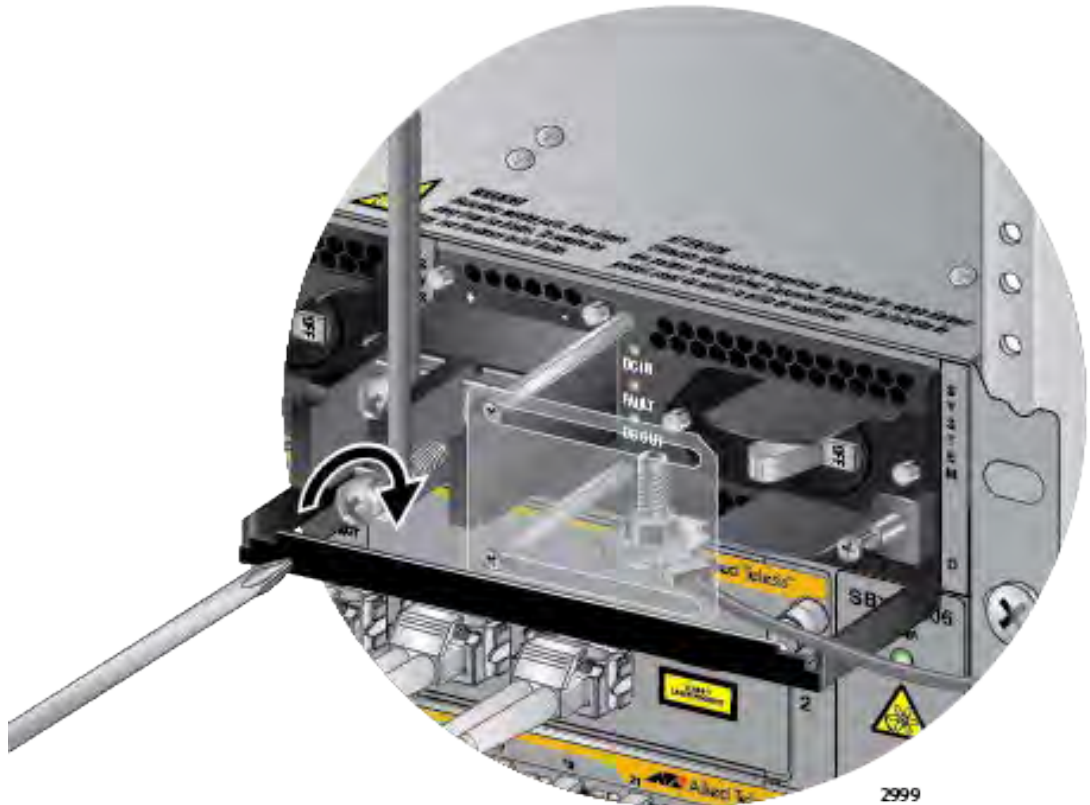

Figure 153. Connecting the Negative Lead Wire
5. Wrap the negative lead wire clockwise around the remaining terminal screw and secure the screw and wire to the negative terminal connection on the terminal block with a #3 Phillips-head screwdriver, as shown in Figure 153 on page 229. The negative terminal is on the right.